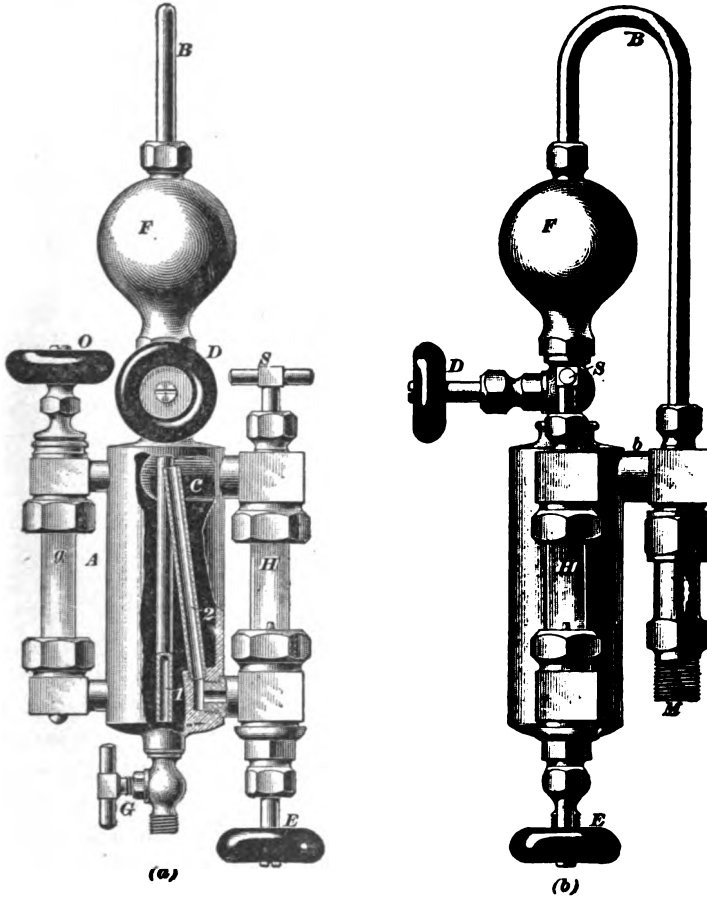

FIG. 26.
**66. The Detroit Lubricator.**—In Fig. 26 is shown the